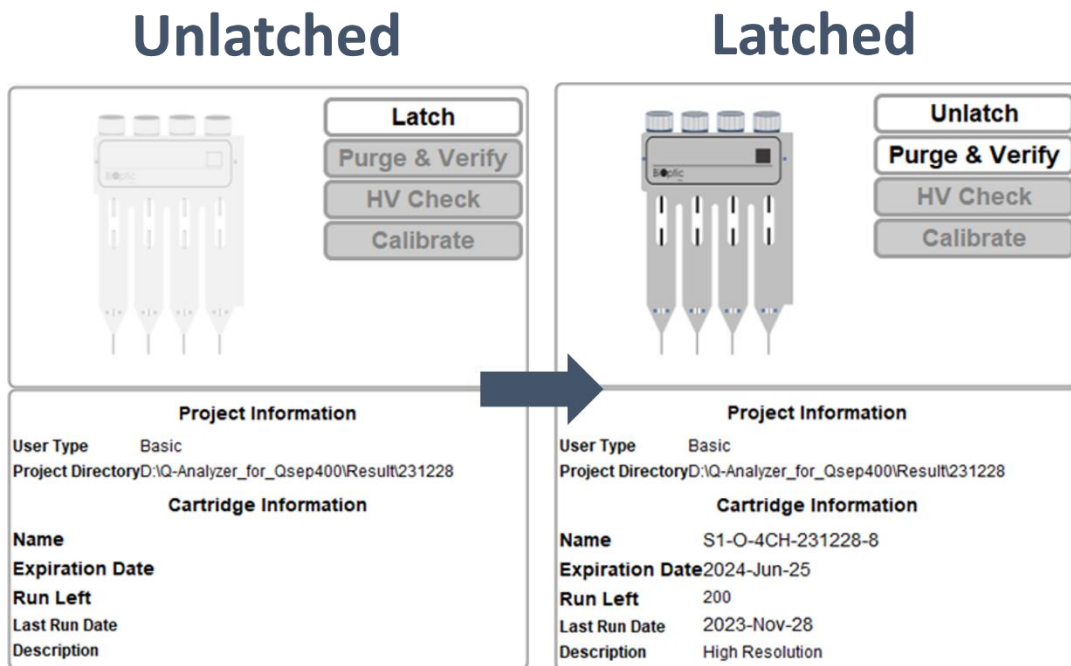

Figure 17 Before and after the cartridge is latched
2. The cartridge information section on the left will display details such as Cartridge Number, Expiration Date, and Runs Left. The image of the cartridge will also be displayed in color (Figure 17).